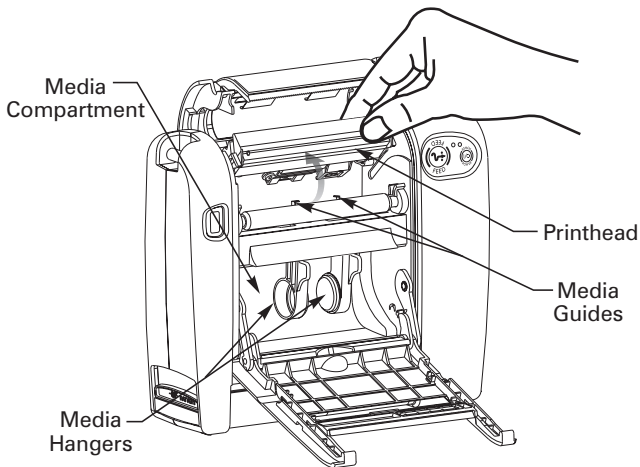

Figure 5
2. Refer to Figure 5. Swing the media access door open to expose the media compartment.
5. Refer to Figures 5 and 6. Thread the media into the printer until it extends approximately 1" (25.4 mm) past the printhead.
5. Refer to Figures 5 and 6. Remove approximately 6” (152.4 mm) of labels from the media roll. Then, thread the media into the printer until it extends approximately 1” (25.4 mm) past the printhead.
2. Swing the media access door open to expose the media compartment (refer to Figure 5).